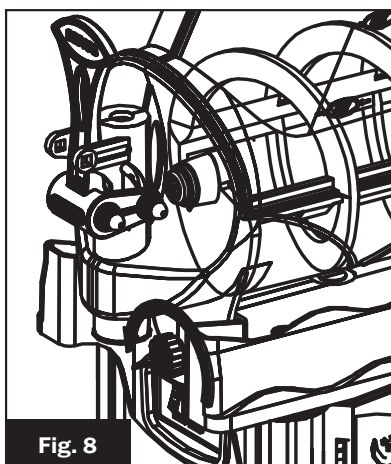

Fig. 8
1. Remove the (2) front fixing knobs by unscrewing them counter-clockwise. (Fig. 8)